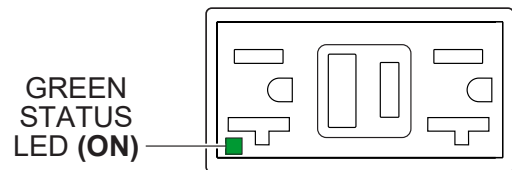

Figure 82. GFCI Receptacle (ON)
3. Verify that the **status LED** on the corresponding GFCI receptacle (Figure 82) is **ON (GREEN)**.